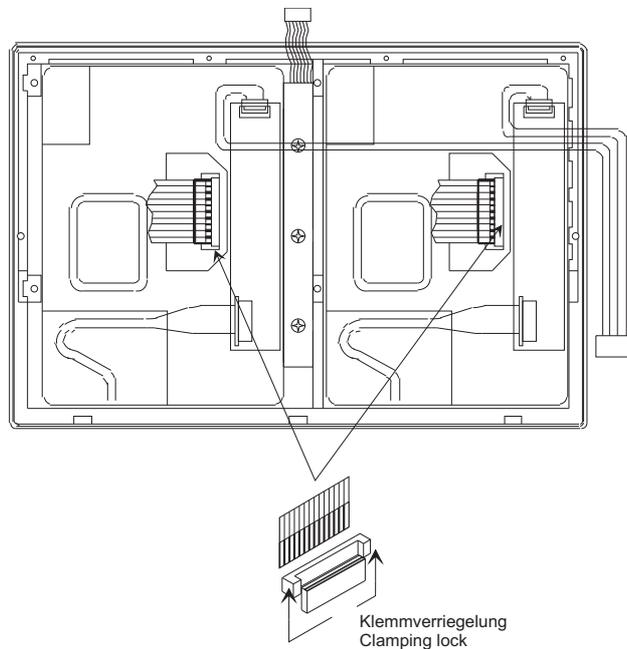

Fig. E 8-20: Connecting the flat cables to the display
13. Connect flat cables to display unit. Avoid damage of the flat cables because of canting (Fig. E 8-20).